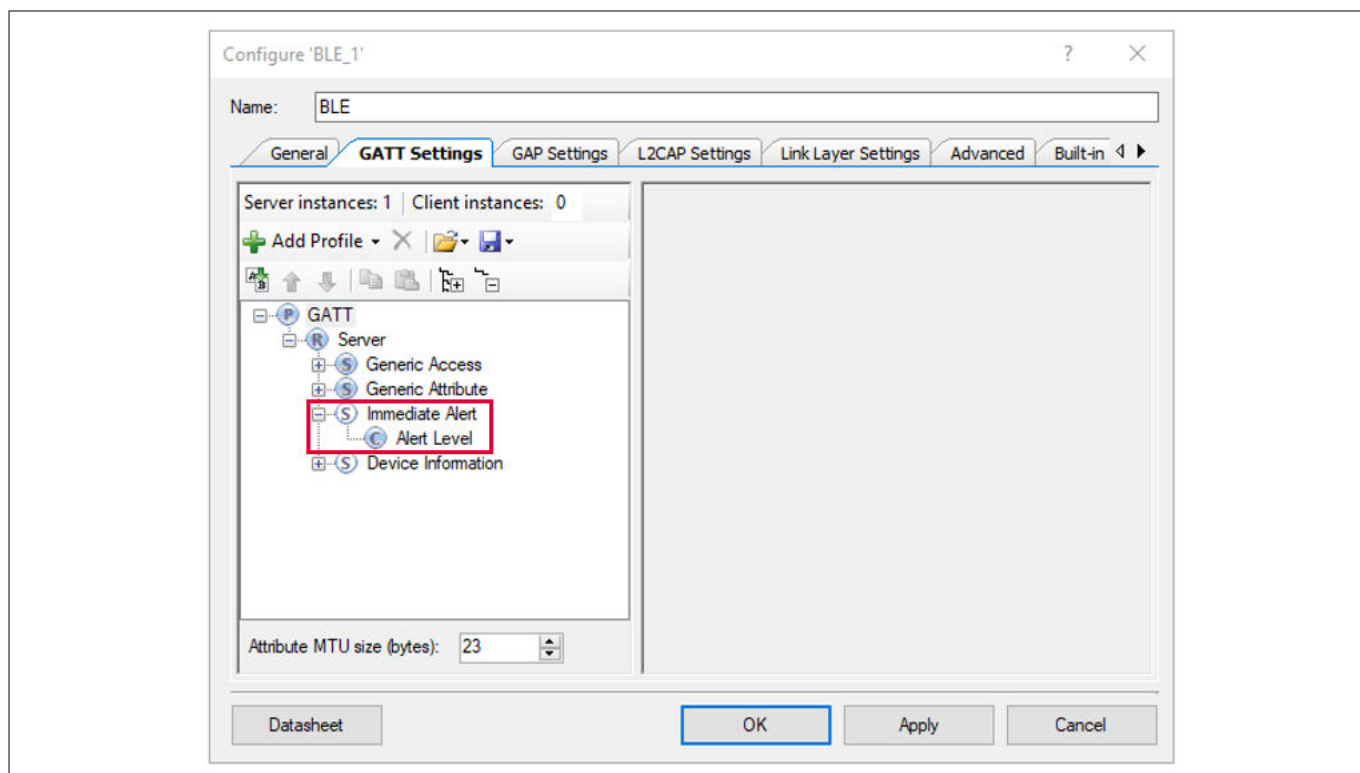

Figure 28 Bluetooth® Low Energy component immediate alert service added
- Select the **Find Me > Find Me Target (GATT Server)** option. This sets the GAP Peripheral role profile. When the menu disappears, notice that a new service “**Immediate Alert**” appears, as shown in Figure 28